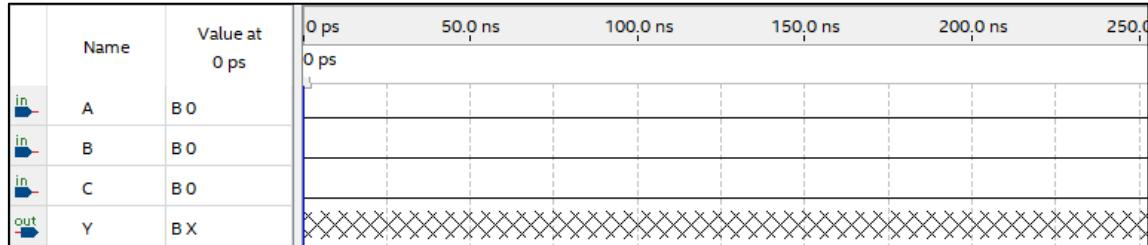

Figure 8: VWF window with 25 ns grid size
1. Change the default grid size to 25 ns (or more) by the following. Go to the “Edit” menu and select “Grid Size”. Then change the Time period to 25.0 ns. Your simulation should look like Figure 8.